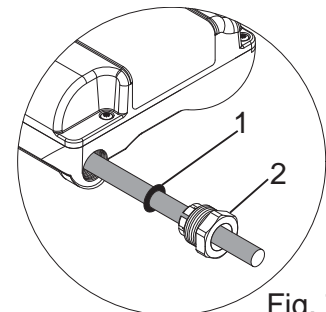

Fig. 7
To enable correct assembly of the cable gland the 'O'-ring (Fig. 7 item 1) must be placed over the cable before the clamping insert (Fig. 7 item 2) can be tightened.